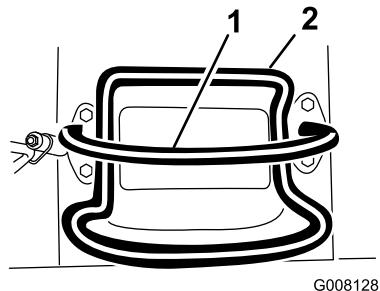
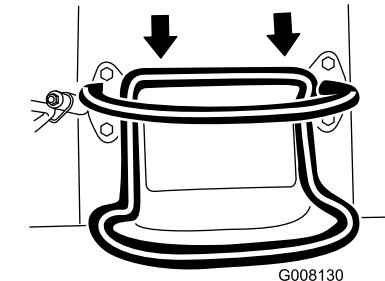

Figure 8
Figure 10
- To move rearward, move the traction control rearward (Figure 10). **When reversing, look behind for obstructions and keep your hands on the reference bar (Figure 8).**